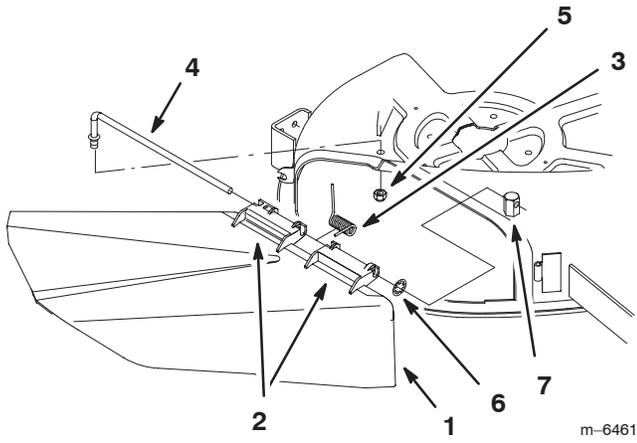

Figure 48
1. Locate items shown in Fig. 48.
2. Remove the nut (3/8 inch) from the rod under the mower (Fig. 48).
3. Slide the rod out of the short stand-off, internal lock washer, spring, and grass deflector (Fig. 48). Remove the damaged or worn grass deflector.
4. Replace the grass deflector and internal lock washer (Fig. 48).
6. Place the spring on the rod, with end wires down, and between the grass deflector brackets. Slide rod through second grass deflector bracket and internal lock washer (Fig. 48).
7. Insert rod at front of grass deflector into short stand-off on deck. Secure rear end of rod into the mower with a nut (3/8 inch) (Fig. 48).